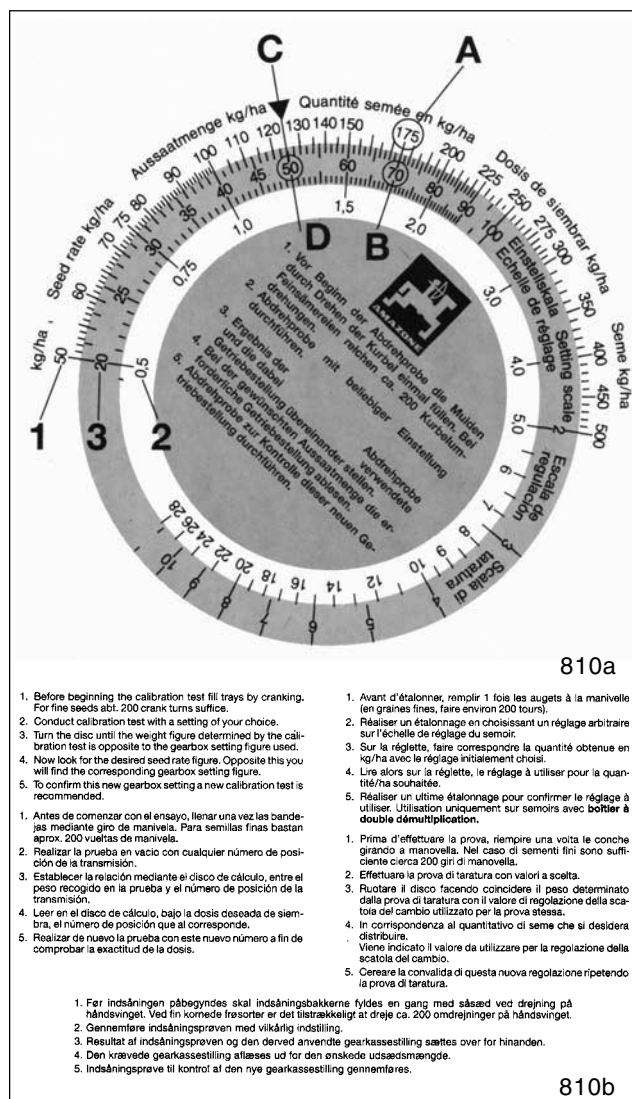

Fig. 11.12
The disc rule consists of three scales: an outer white scale (Fig. 11.12/1) for all seed rates above 30 kg/ha and an inner white scale (Fig. 11.12/2) for all seed rates of less than 30 kg/ha. On the centre coloured scale (Fig. 11.12/3) the gearbox settings from "1 to 100" are indicated.
- Align the seed rate 175 kg/ha (Fig. 11.12/A) and the gearbox setting figure "70" (Fig. 11.12/B) on the disc rule.
- Now read off the disc rule the gearbox setting lever for the desired seed rate of 125 kg/ha (Fig. 11.12/C). In our example that is the gearbox setting figure "50" (Fig. 11.12/D).